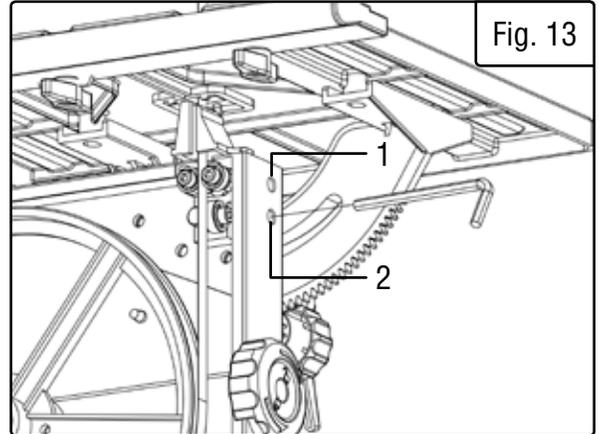

Fig. 13
1. Use a hex wrench to loosen the upper socket-head cap screw (Fig. 13 - 1). Position the assembly so that the roller bearings are about 1 – 2 mm (1/10 inch) behind the tooth gullets. Tighten the screw.
2. Use a hex wrench to loosen the lower socket-head cap screw (Fig. 13 – 2). Position the thrust bearing so that it is as close to the spine of the blade as possible, without touching it.
4. Use a hex wrench to loosen the socket-head cap screws on the front of the assembly (Fig. 13 – 1 & 2). Position the roller bearings, left and right, so that they are as close as possible to the body of the blade without touching it. This will be about 0.5mm (1/50 inch).